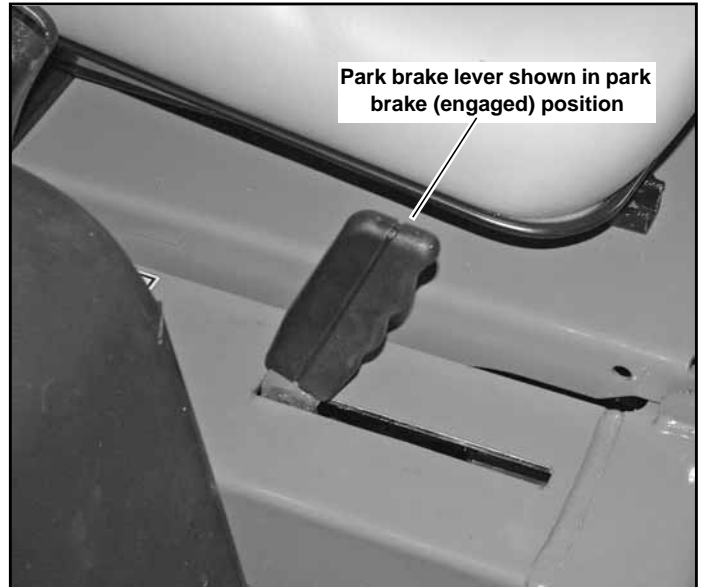

Figure 4-1
3. Engage the park brakes. Figure 4-1